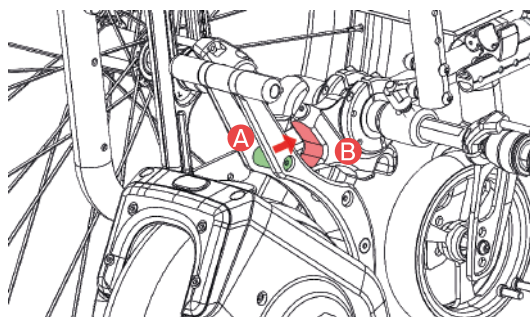

Figure 27
- Grip the handle and bring the TWIST R closer to the hook until the lower pin (Figure 27 Letter A) rests perfectly against the seat of the lower pin (Figure 27 Letter B). (Figures 26 and 27).